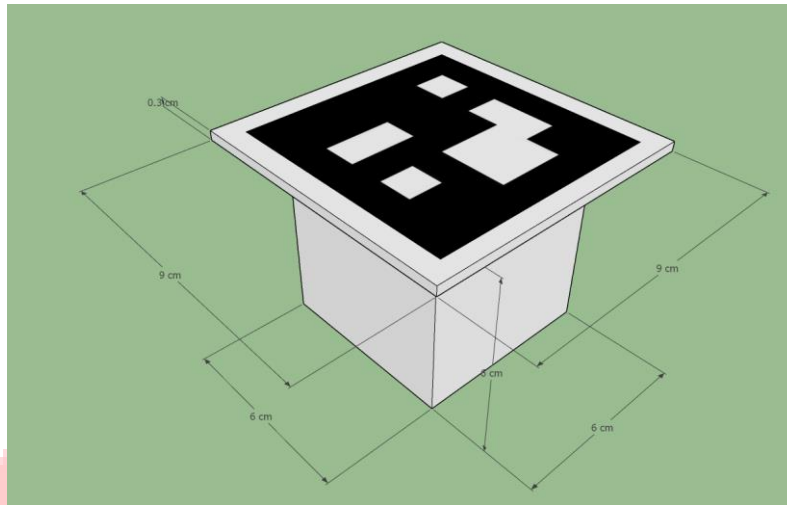

Figure 7: Fruit
- Place the sunboard on the block. Use double sided tape so that the sunboard remains flat with respect to the block's face. The final "Fruit" should be as shown in Figure 7.